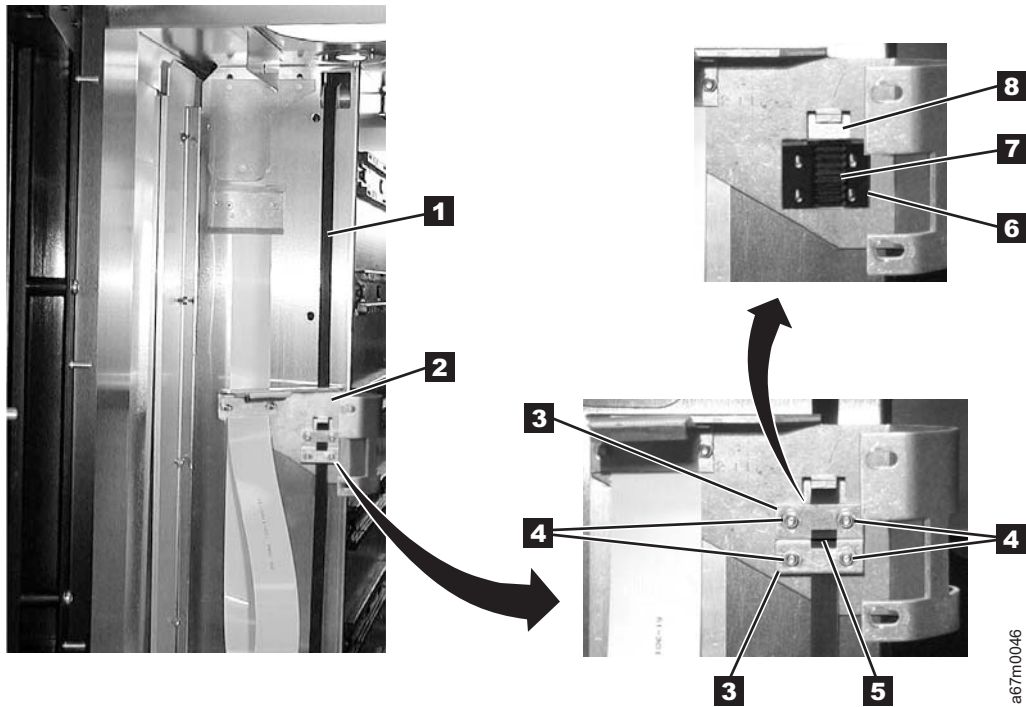

Figure 8-15. Removing the belt clamps
14. See Figure 8-15 on page 8-20 for this step. Pay particular attention to the clearance between two ends of the belt **5** at the belt clamps before proceeding. You will need to maintain same clearance between ends of the new belt. The plastic belt retainer **7** behind belt clamps **3** can fall off when you remove the four belt clamp nuts. Be careful to save these belt clamps and retainer which will be needed to maintain alignment of the new belt when installed. Remove four belt clamp nuts **4** by using 3/16 in. nut driver.